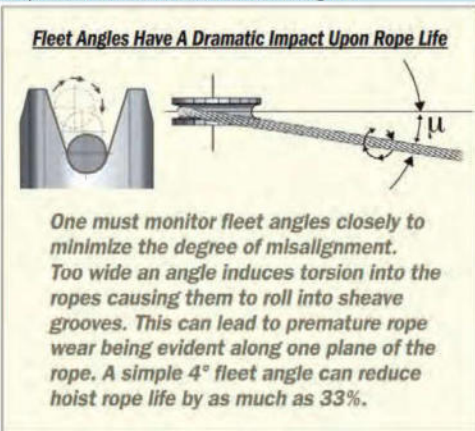

Figure 2, from the Brugg Lifting manual
- ♦ Misalignment will damage the ropes and sheaves. According to Brugg Lifting, a fleet angle as small as 4° can reduce rope life by 33%. Extra caution should be taken to minimize the fleet angle (Figure 2). This can be accomplished by making sure that the drive and counterweight sheaves are aligned; making sure that, in 1:1 roping, the center rope on the drive sheave is aligned with the center of the car and counterweight; and by making sure that, in 2:1 roping, the drive and deflector sheaves are aligned with the pulley (sheave) of the car and counterweight.